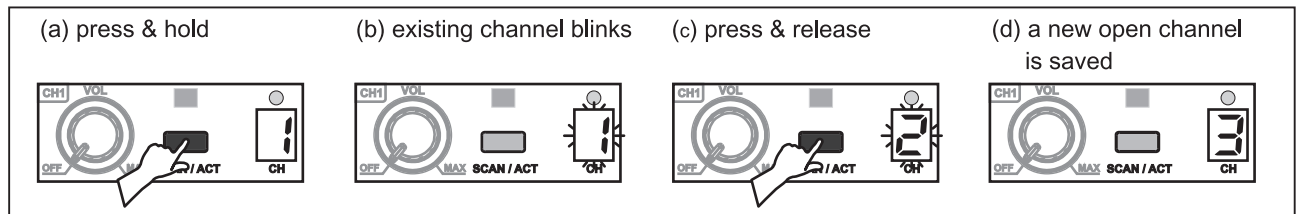

Fig. 4
(1) Scan automatically for a Non-interference Receiver Channel: Press and hold SCAN / ACT Button **35** or **40** to perform a channel scan. Existing channel blinks to denote it is ready to accept parameter changes. If SCAN / ACT Button is not pressed within ten blinks, it stops blinking and reverts back to the existing channel. During blinking, press and release button to scan and stop for an open channel. This new channel is now saved, Fig. 4.